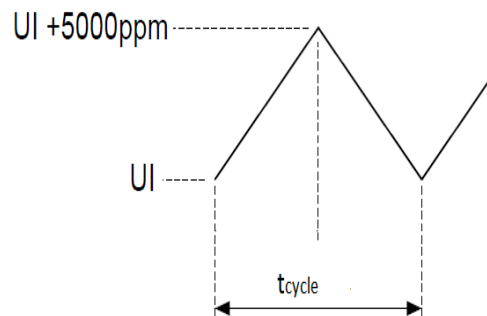

Figure 62 Measuring Modulation Rate
- Measure the modulation rate, modulation rate is $1/t_{cycle}$. t_{cycle} is defined as shown in Figure 62.